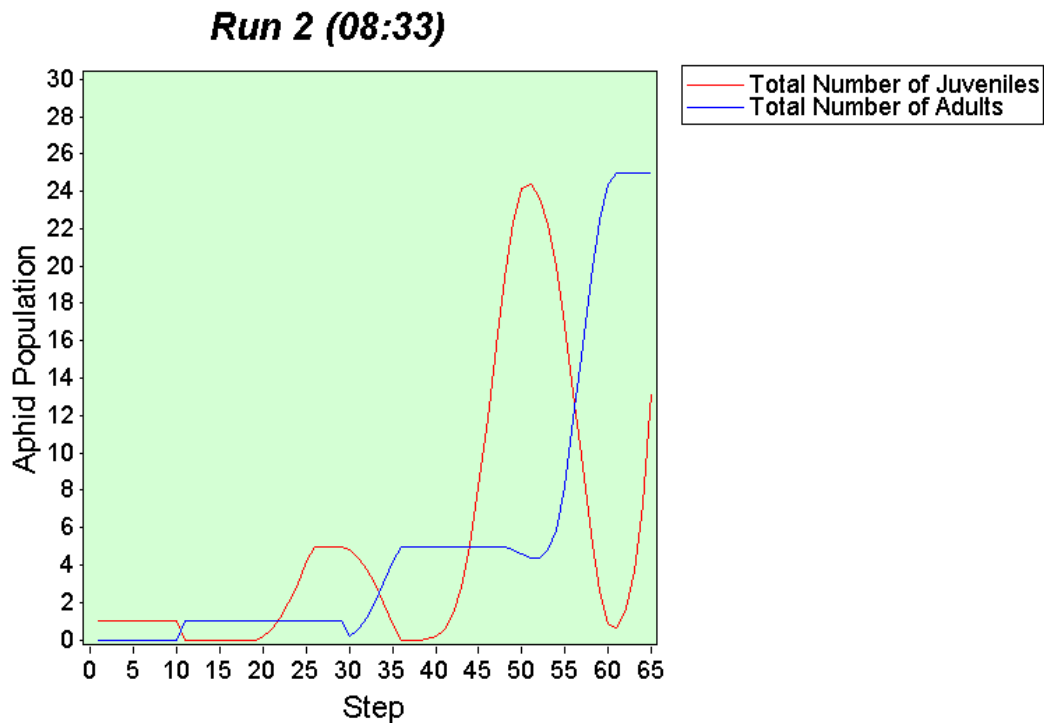

Figure 1-25 Pseudo-aphid Population Chart
12. Select **“OK”** and the chart will now display. It should be similar to Figure 1-25.